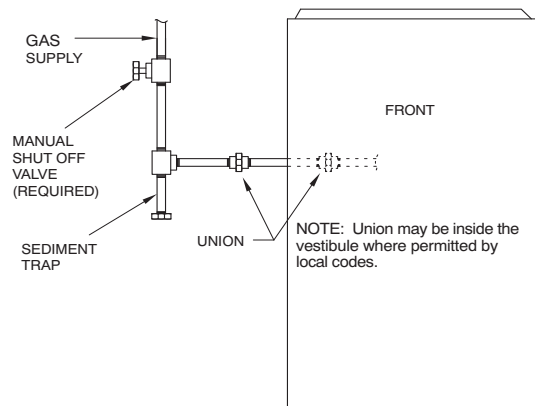

Fig. 31 – Typical Gas Pipe Arrangement
Install a sediment trap externally in the riser leading to furnace as shown in Fig. 31. Connect a capped nipple into lower end of tee. Capped nipple should extend below level of furnace gas controls. Place a ground joint union between furnace gas control valve and exterior manual equipment gas shutoff valve.
5. Fasten the external electrical box to the furnace casing using two (2) sheet metal screws.
**NOTE:** Connect field power and neutral leads to furnace power leads inside the external electrical box as shown in Fig. 31.